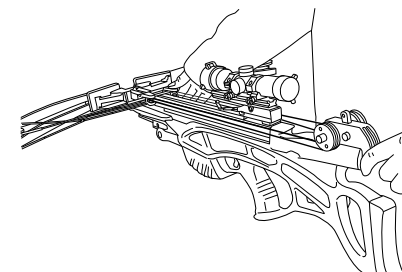

Figure 17
- 6.4 Disengage (pull) the pawl to release the rope guide. Extend the rope guide over the scope and attach to the bowstring, centered on the barrel (See Figure 17).